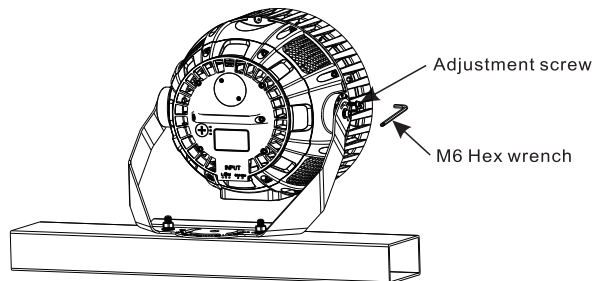

Figure 8
4. Use M6 (torque: 12.39 ft-lb) hex wrench to loosen the adjustment screw used to adjust the angle (Figure 8)